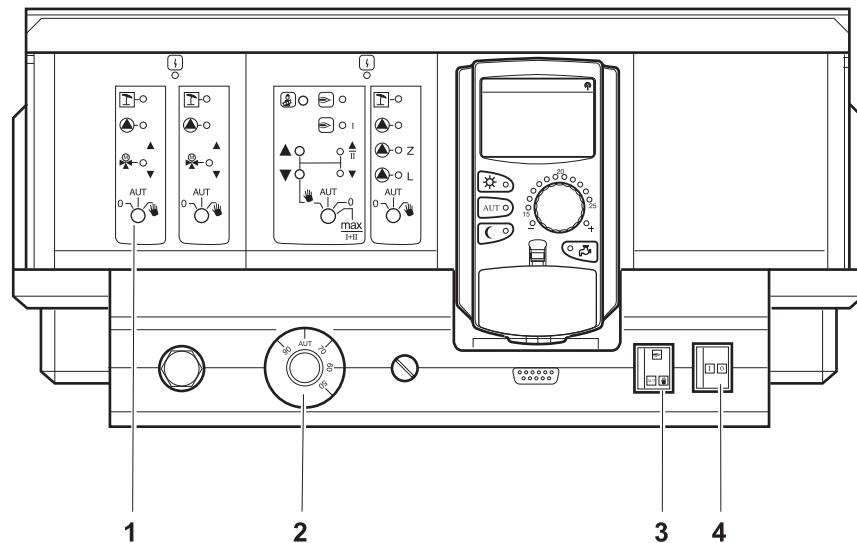

Fig. 24 Heating with manual override
- To safeguard heat supply in the event of a fault, set the module switches (→ Fig. 24, [1]) to .
- Set the boiler water thermostat (→ Fig. 24, [2]) to 60 °C – 90 °C, in case of DHW failure to 60 °C.
- Set burner emergency switch (→ Fig. 24, [3]) to . Burner stage 1 will always be directly controlled. The setting for burner stage 2 must be made using the switch on the module.
- Set the ON/OFF switch (→ Fig. 24, [4]) on the control unit to .